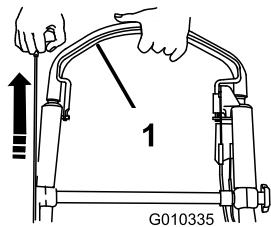

Figure 22
4. Hold the blade control bar against the handle and pull the recoil starter (Figure 22).